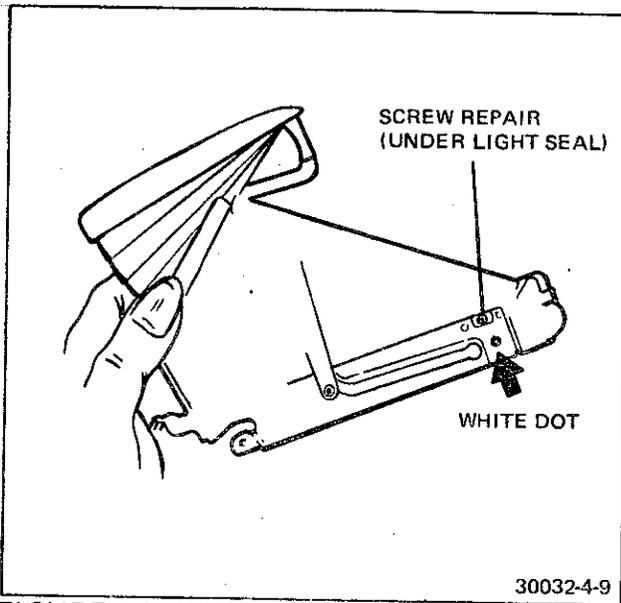

FIGURE 4-9 WHITE DOT INDICATION OF SCREW REPAIR TO BOOT RETAINER TAB
f. Paint or mark a white dot under the light seal to warn that a screw fix has been made (Figure 4-9).
**Caution:** Before continuing with step 13, look for a white dot painted under the light seal on the upper right side of the bottom plate (Figure 4-9). If the dot is there, it means that a previously broken boot tab has been repaired by using a screw. In this event, you cannot snap off the retainer as described in the next paragraph.